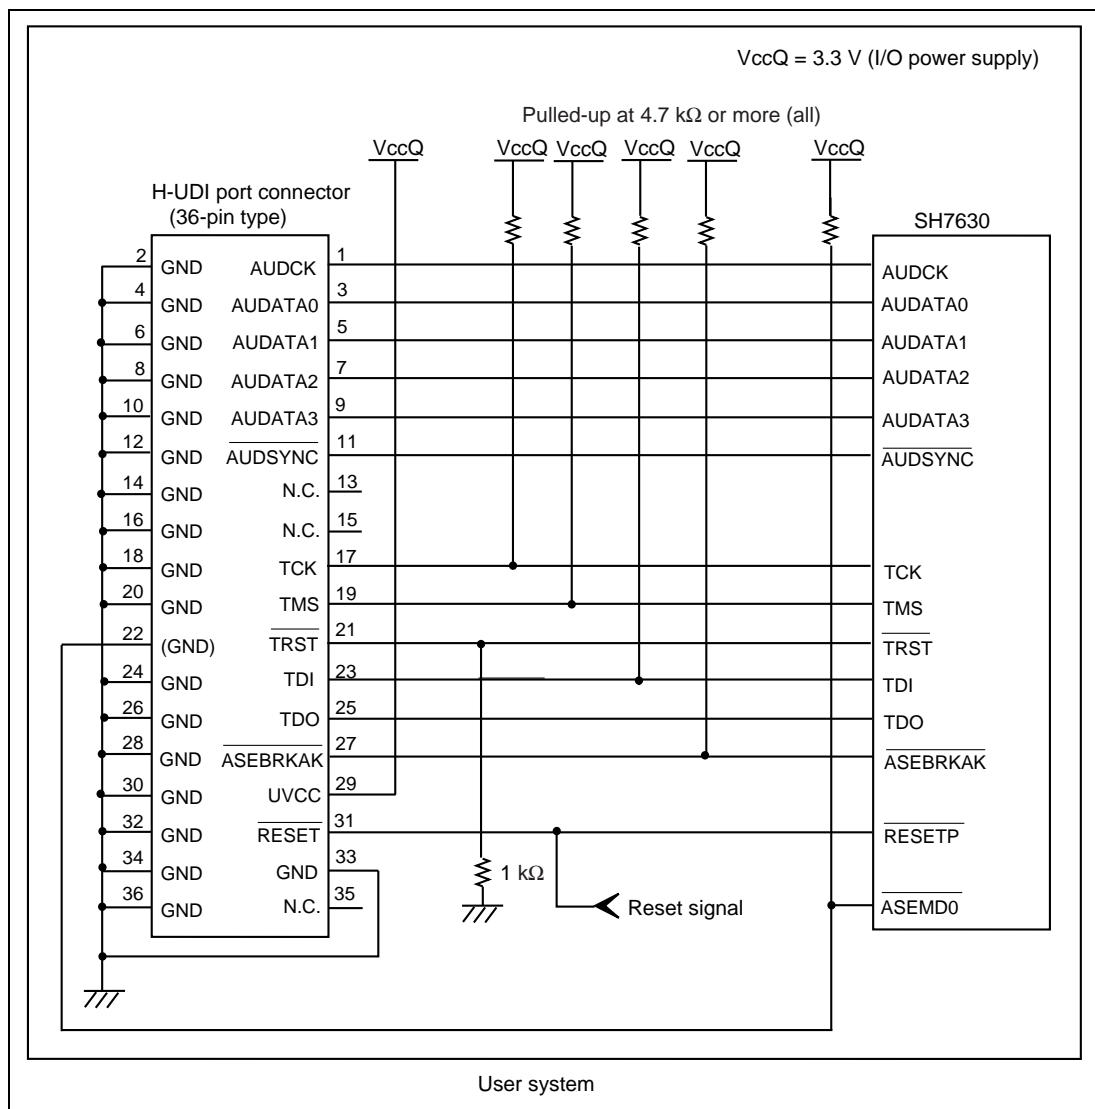
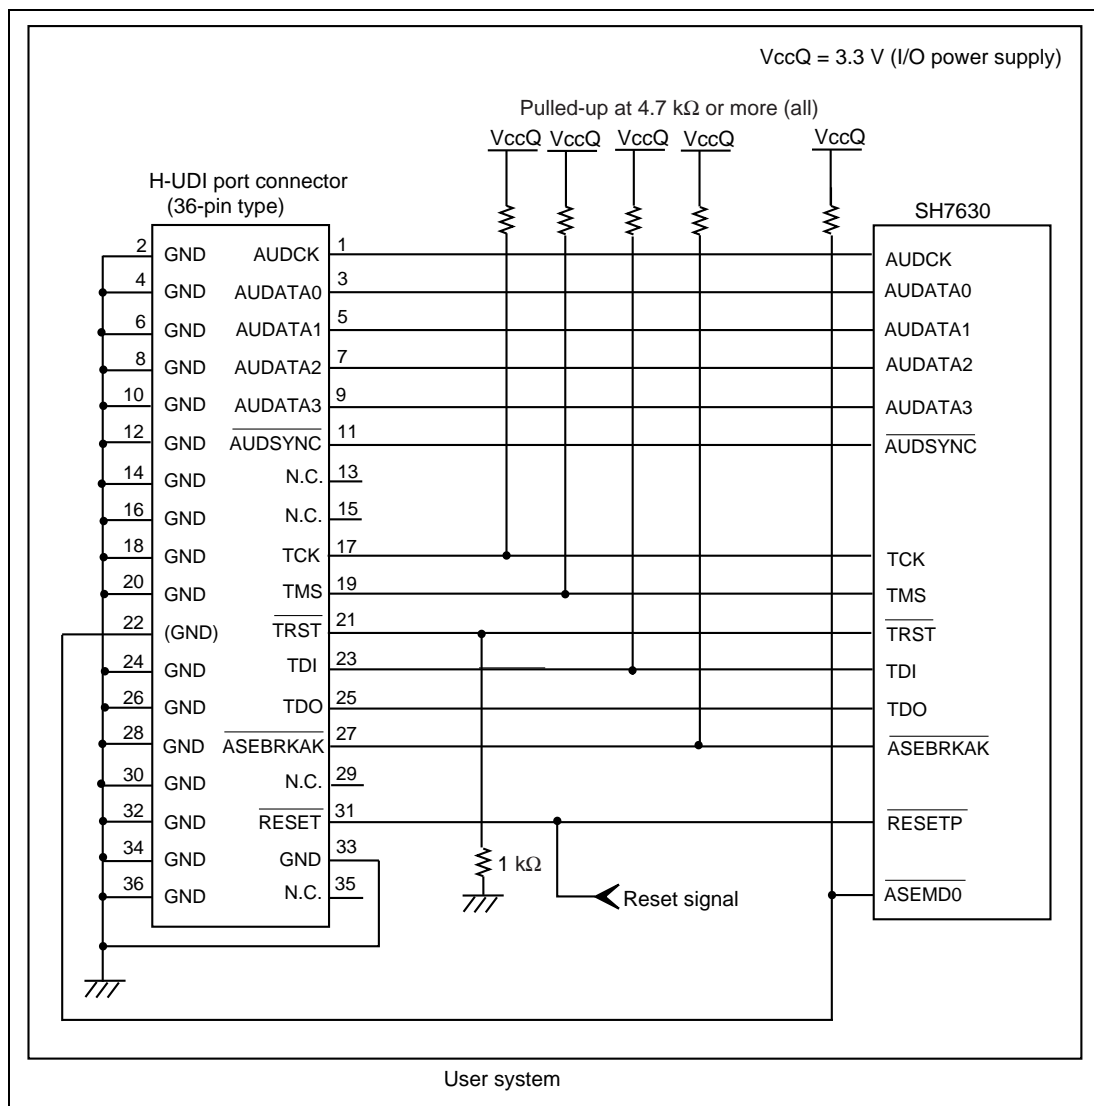

Figure 1.3 Recommended Circuit for Connection between the H-UDI Port Connector and MPU when the Emulator is in Use (36-Pin Type UVCC Connected)
Figure 1.4 Circuit for Connection between the H-UDI Port Connector and MPU when the Emulator is in Use (36-Pin Type UVCC Not Connected*)
Figure 1.3 shows a recommended circuit for connection between the H-UDI and AUD port connectors (36 pins) and the MPU when the emulator is in use. Figure 1.4 shows a circuit for connection when UVCC is not connected.
- (1) When the emulator is used: /ASEMD0 = 0 (ASE mode)
- (2) When the emulator is not used: /ASEMD0 = 1 (normal mode)Figures 1.3 and 1.4 show examples of circuits that allow the /ASEMD0 pin to be GND (0) whenever the emulator is connected by using the user system interface cable. When the /ASEMD0 pin is changed by switches, etc., ground pin 22. Do not connect this pin to the /ASEMD0 pin.
5. When the power supply of the user system is turned off, supplying VccQ of the user system to the UVCC pin reduces the leakage current from the emulator to the user system. A level shifter that is activated by the internal power supply or user power supply (changed by the switch) is installed in the interface circuit of the emulator. If the user power is supplied to the UVCC pin, the level shifter is not activated as long as no user power is supplied. When the power supply of the user system is turned off, no current flows from the user interface. The I/O voltage level of the user system interface can be the same as that of the VccQ. To operate the emulator with low voltage (lower than 3.3 V), the VccQ must be supplied to the UVCC pin. Make the emulator's switch settings so that the VccQ will be supplied (SW2 = 1 and SW3 = 1) (as shown in figure 1.3).
When the circuit is connected as shown in figure 1.3, the switches of the emulator are set as SW2 = 1 and SW3 = 1. For details, refer to section 3.8, Setting the DIP Switches, in the Debugger Part of the SuperH™ Family E10A-USB Emulator User's Manual.
When the circuit is connected as shown in figure 1.4, the switches of the emulator are set as SW2 = 0 and SW3 = 1. For details, refer to section 3.8, Setting the DIP Switches, in the Debugger Part of the SuperH™ Family E10A-USB Emulator User's Manual.